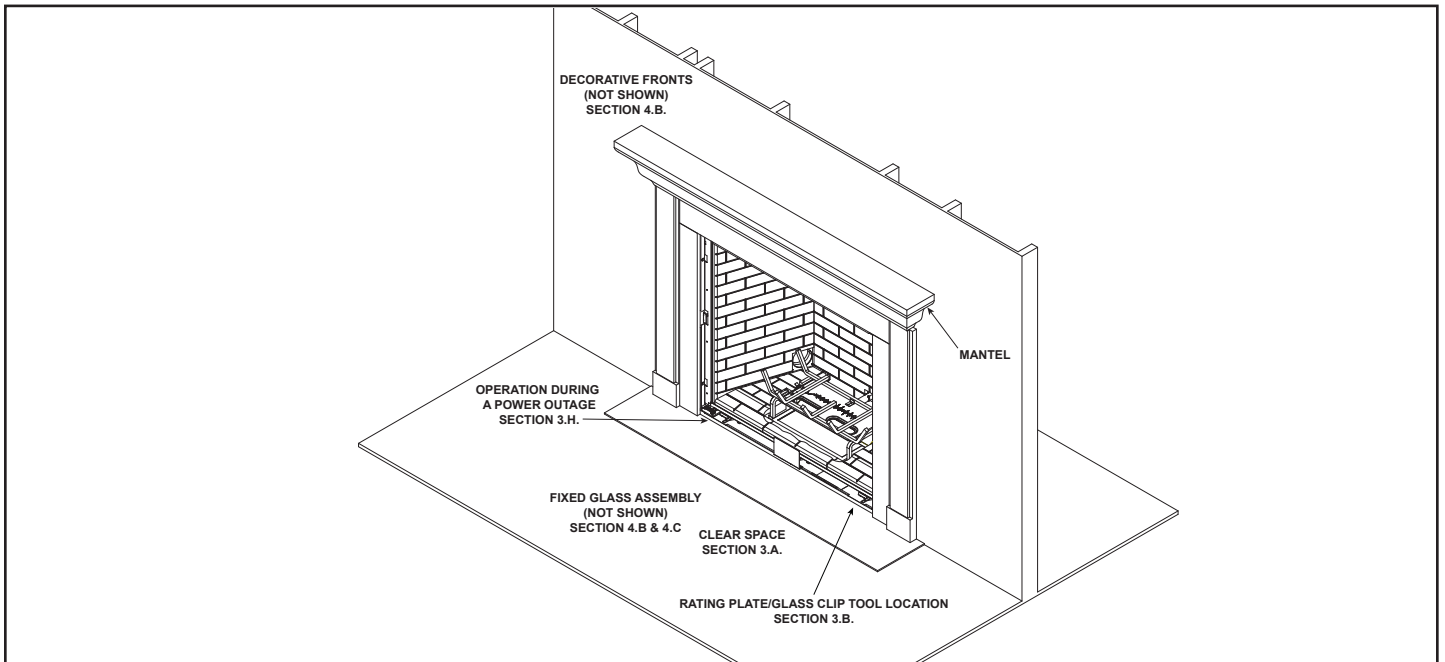

Figure 3.2 General Operating Parts
Figure 3.2 references the general operating parts of the appliance and the section of this manual in which they are discussed.
The IntelliFire™ Plus intermittent pilot ignition system comes with a battery backup system that enables the system to operate in a power outage. The system offers seamless transition from household AC power to battery backup. A factory-installed battery pack is located at the lower left corner of the appliance adjacent to the control module. See Figure 3.2. Battery longevity and performance will be affected by long term exposure to the service temperatures of this appliance.
1. Access the control cavity of the appliance. See Figure 3.2 for location. The decorative front may need to be removed.